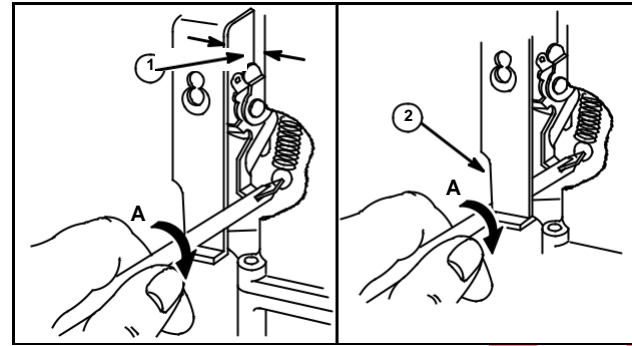
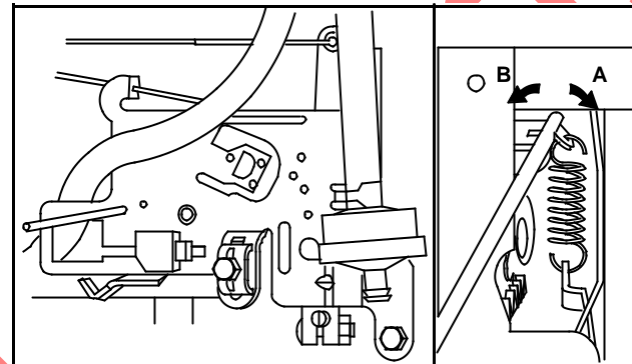

Fig. 57
Fig. 58
2. Use Tool #19229, Tang Bending Tool, to bend spring anchor tang to obtain the proper TOP NO LOAD RPM, Fig. 57, swivel and vertical rack and pinion control brackets or Fig. 58, horizontal rack and pinion control bracket. For engines using Top Speed Limit Screw, adjust tang to 4000 RPM, unless otherwise noted in Table No. 7, page 29 for Model Series 197400, 195700, 196700, 254700, 257700, 259700, 28A700, 28B700, 28C700, 28D700, 28F700, 28M700, 28R700, 28T700, 28V700 or Table No. 8, page 29, for Model Series 170000, 190000, 220000, 250000, 280000 before installing top speed limit screw.